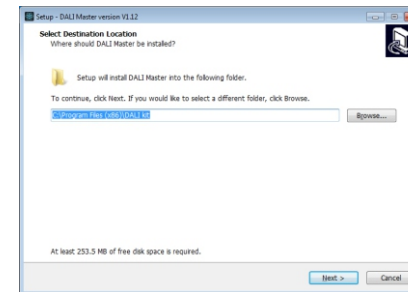

Figure 3 Installation Path
Step 3: Select installation path as shown in **Figure 3**.